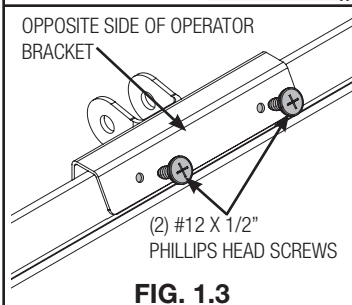

FIG. 1.3
Install (2) #12 x 1/2" phillips head screws on the opposite side of operator bracket, as shown in **FIG. 1.3**.